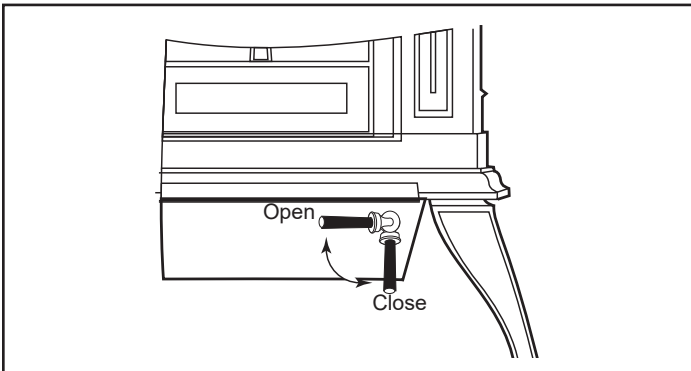

**Figure 2.9-** Turn the ashdoor handle clockwise to open and counterclockwise to close.
- Close the griddle or doors, and unlatch the ash door. (Figure 2.9) It will pivot, swinging the ash pan out of the stove.